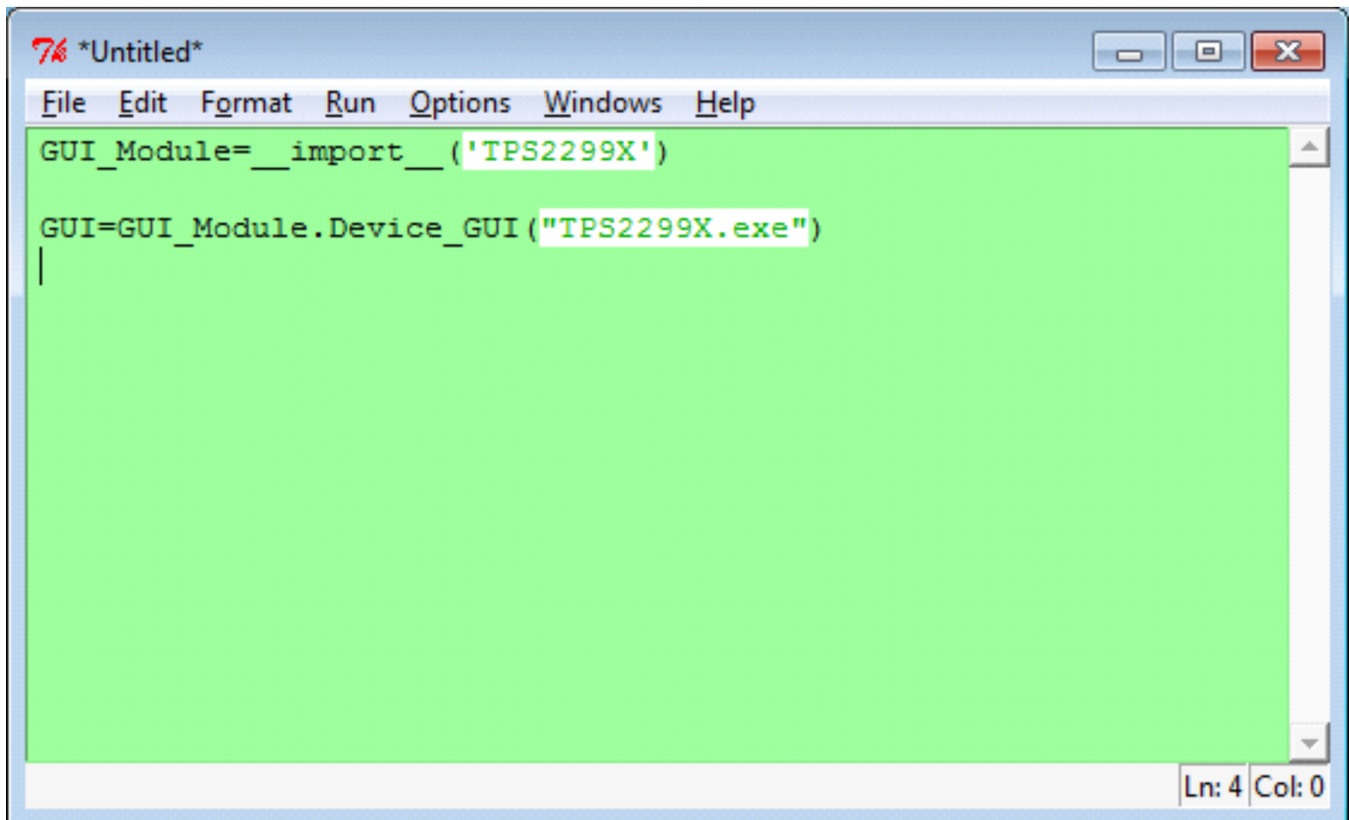
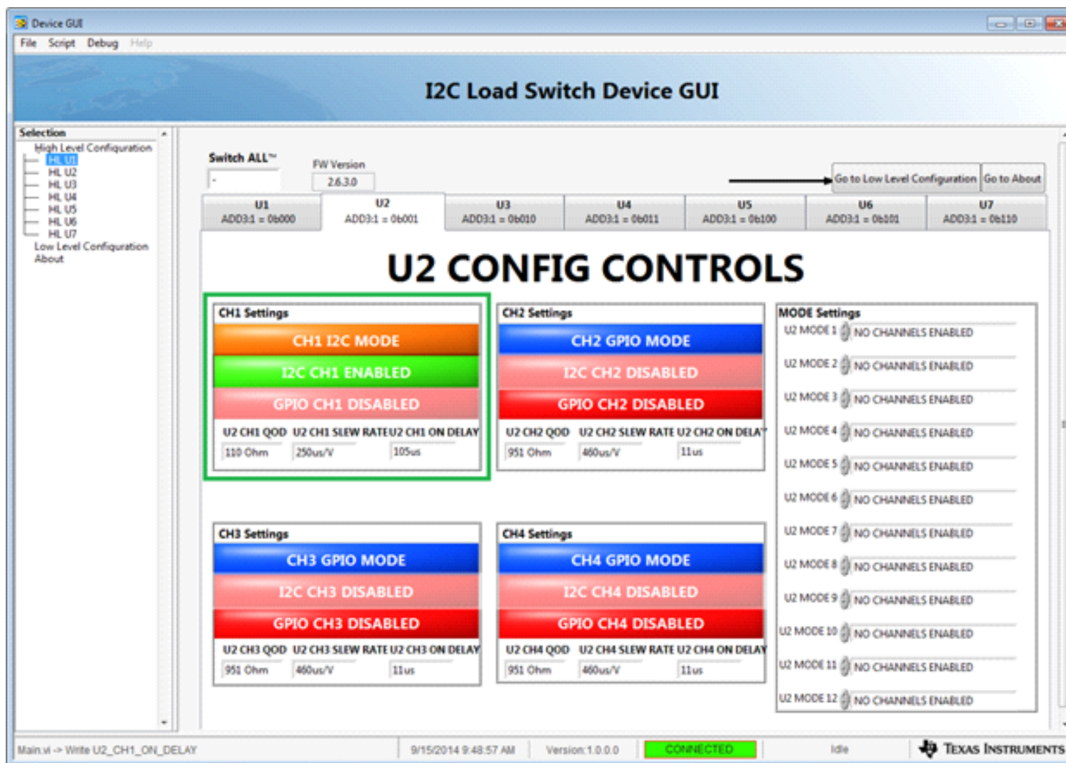

Figure 15. Python Script Window Begins Flashing Green
Figure 16. GUI Screen after Clicking U2 CH1 Controls
- (E) The Python script should begin flashing green and additional text should show up in the window, see Figure 15.
- (F) You are now ready to record the actions in the I²C Load Switch GUI. Click on the U2 tab to select device U2. Click on CH1 GPIO Mode it should transition to CH1 I2C MODE, Click on I2C CH1 Disable and it should transition to I2C CH1 Enabled and turn Green, Click on U2 CH1 QOD and select 110 Ω, Click on U2 CH1 Slew Rate and select 250 μs/V, and Click on U2 CH1 ON Delay and select 105 μs.
- (G) Your GUI screen should look like Figure 16 after you have finished clicking the controls.